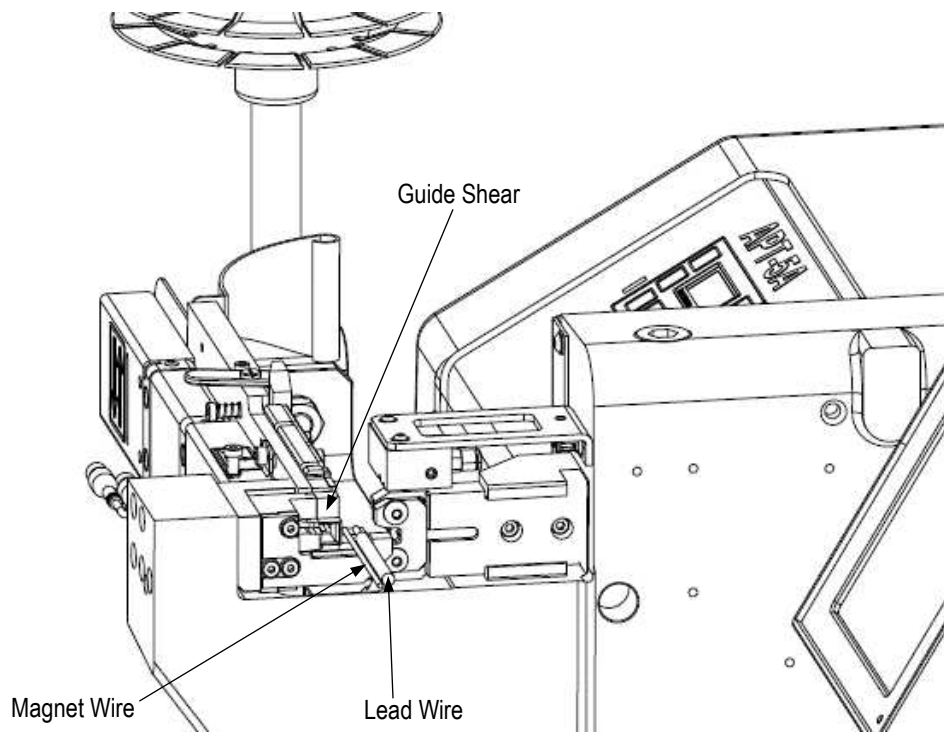
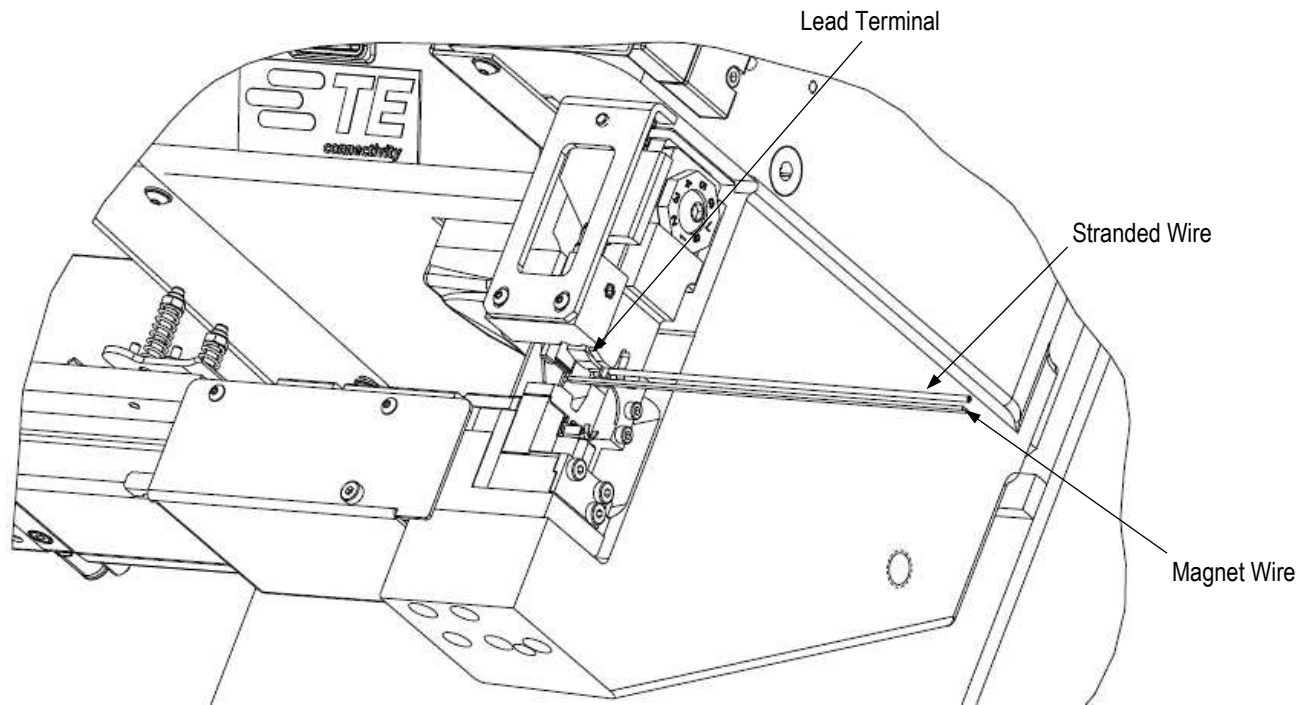

Figure 14
Figure 15
3. Depress and hold the feed finger release button on front of the feed plate while feeding the terminal strip through until the first terminal has passed the tip of feed finger. Then release the button to engage the feed finger. Pull back slightly on the terminal strip to ensure that the feed finger is indexed against the first terminal (refer to Figure 14).
3. Feed the terminal strip through until the first terminal has passed the tip of feed finger and is over the lower tooling (anvil). Then, pull back slightly on the terminal strip to ensure that the feed finger is indexed against the first terminal. Refer to Figure 15.
4. Place wires in the "target area," aligned with the terminal. When using stranded and magnet wire, position it as shown in Figure 14 (splice terminator) or Figure 15 (direct connect terminator). When splicing two or three magnet wires, they may be in any position with respect to each other. The crimp tooling will automatically position them side-by-side in the bottom of the terminal as crimping occurs.